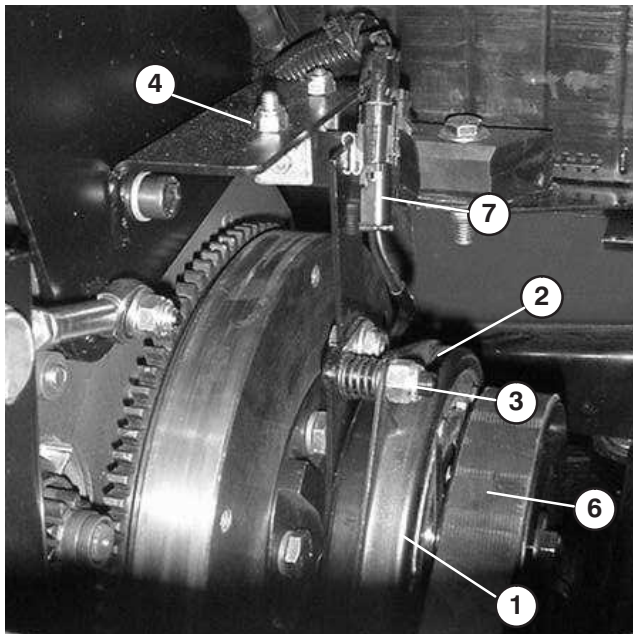

Figure 44
4. Rotate PTO pulley toward the engine and remove the belt (Fig. 44).
2. Remove the left hand clutch retainer bracket nut and bolt so that the retainer bracket rubber bumper can be removed (Fig. 44).
3. Unplug clutch electric connector (Fig. 44).
4. Adjust the air gap so that a .015 inch feeler gauge slides in between the clutch lining and friction plate with light pressure (Fig. 44). The gap can be decreased by turning the adjusting nut clockwise.